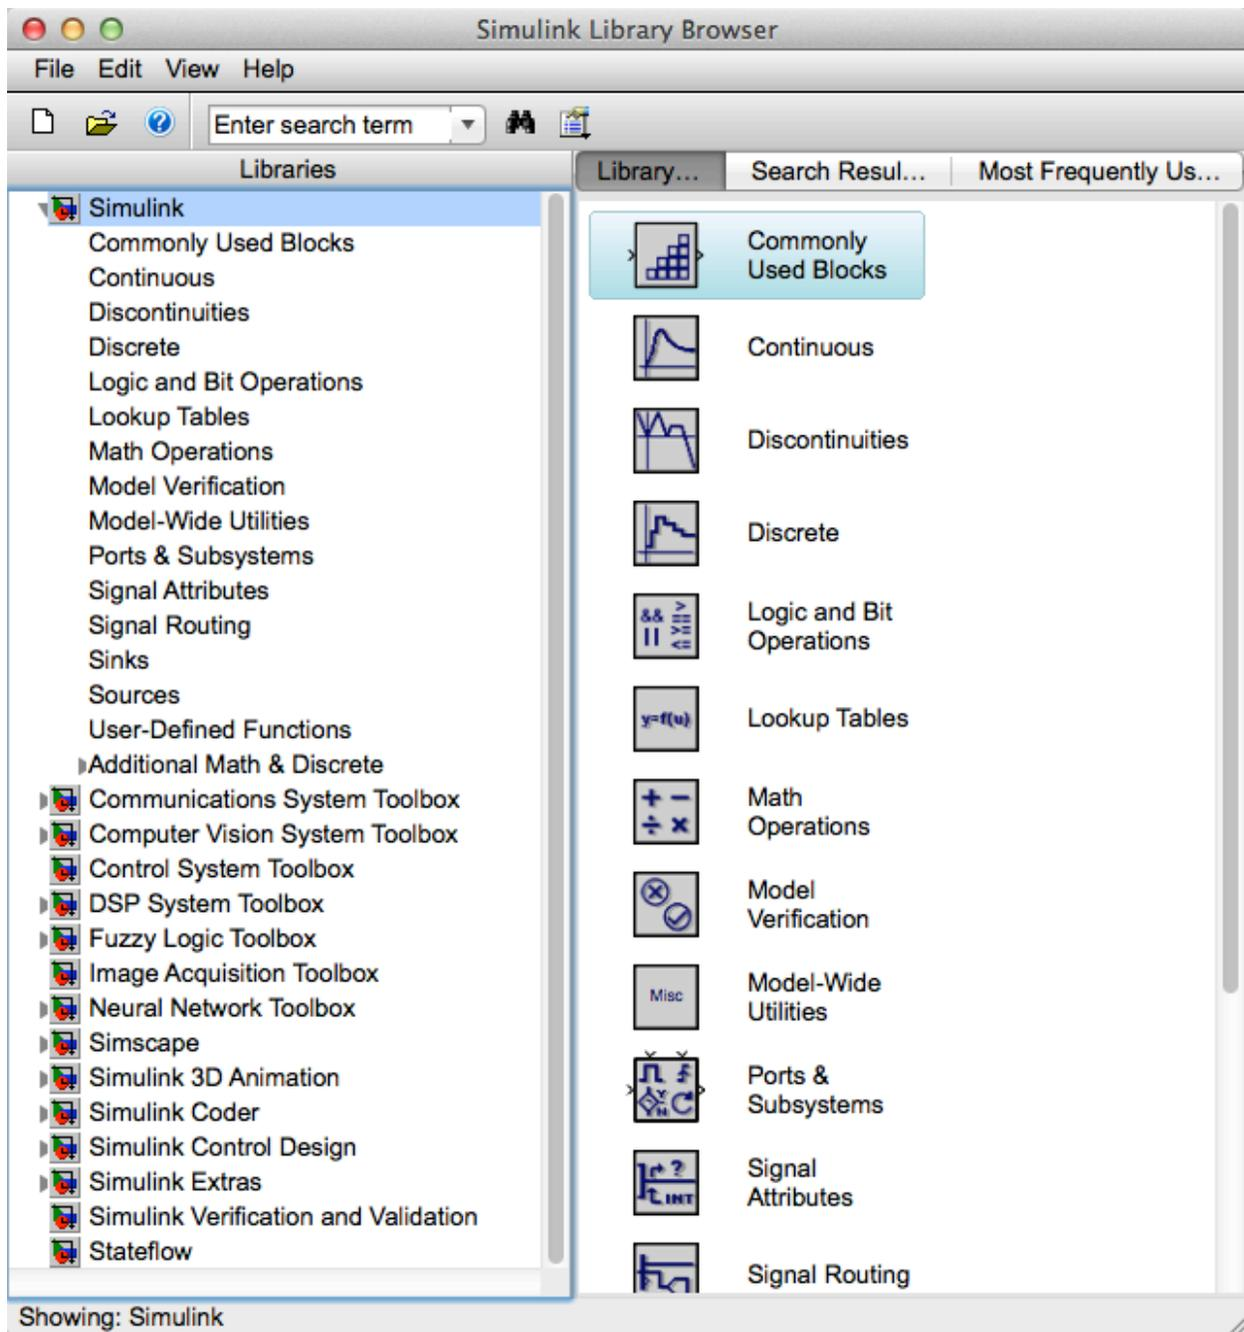

Figure 1. Simulink Library Browser
2. After a few seconds Simulink will open and the Simulink Library Browser will open as shown in figure 1. It is important to note that the list of libraries may be different on your computer. The libraries are a function of the toolboxes that you have installed. At a minimum you should have the Simulink and DSP Toolbox libraries on your list.